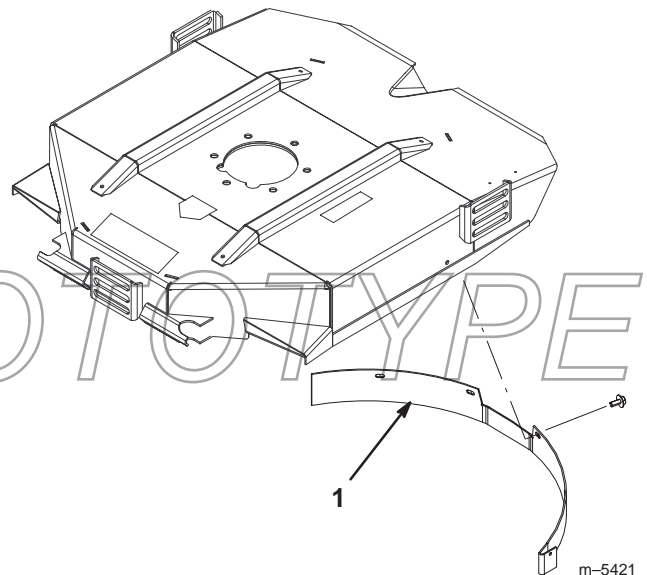

Figure 5
- Install mulching baffle in rear opening and secure with 5 flange head screws (Fig. 5).